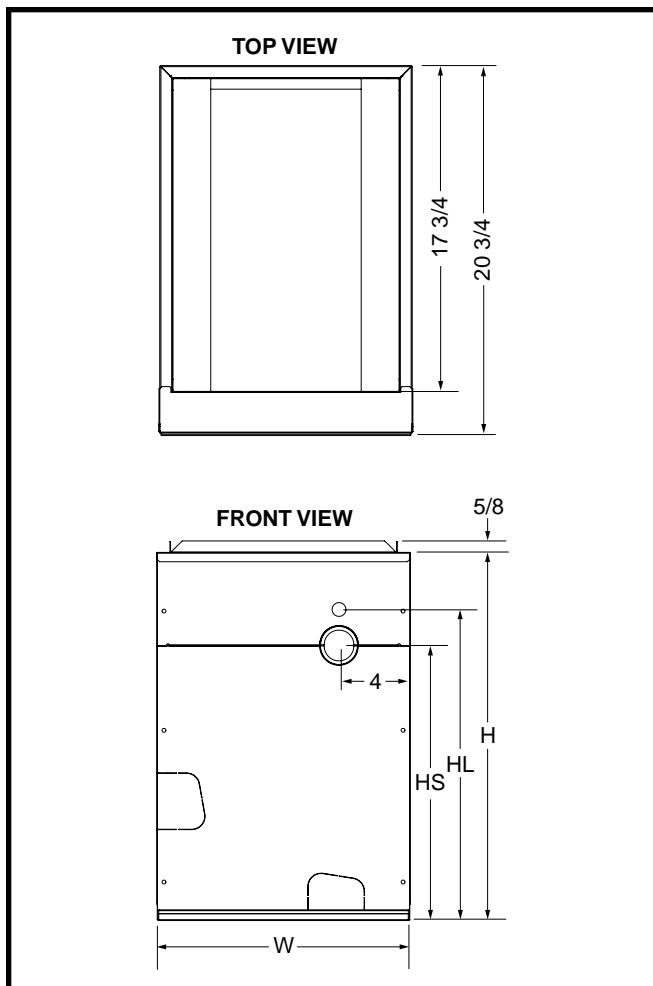

Figure 1. Coil Dimensions
2. Install the coil case on the furnace air discharge opening. If needed, use a coil case adapter kit to match them together. See Figure 1 (page 3) for case dimensions.